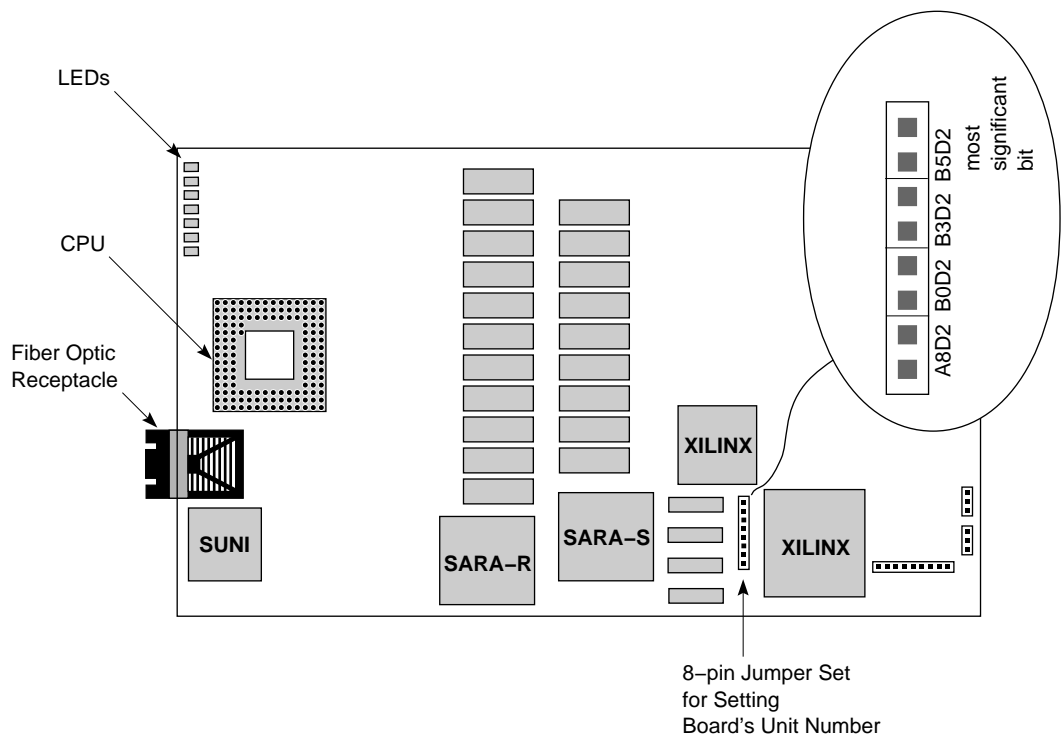

Figure 1-2 Location of Unit Jumper Set on IRIS ATM Board
- Figure 1-2** Location of Unit Jumper Set on IRIS ATM Board1-3
The IRIS ATM board has a number of jumpers; however, the only ones that can be configured are those comprising the 8-pin Unit Jumper Set; these are labeled B5D2, B3D2, B0D2, and A8D2. The location of the Unit Jumper Set is illustrated in Figure 1-2.
The IRIS ATM board has a set of jumpers called the Unit Jumper Set, illustrated in Figure 1-2. These jumpers must be configured to give the board a unique unit identification number (for example, ATM unit 0, ATM unit 1, etc.). Follow the instructions in Section 1.2 in Chapter 1 to set the jumpers.